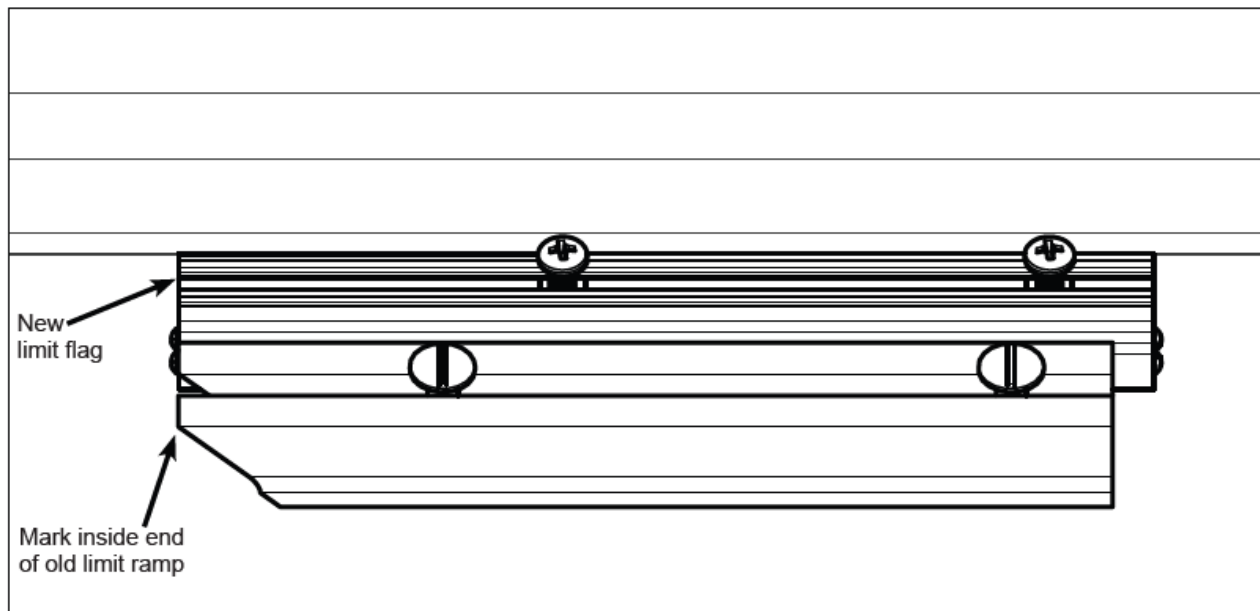

Figure 4. Align Stop Limit Flag
5. Mark the inside ends of the stop ramps. Remove all limit ramps and screws (Figure 4).